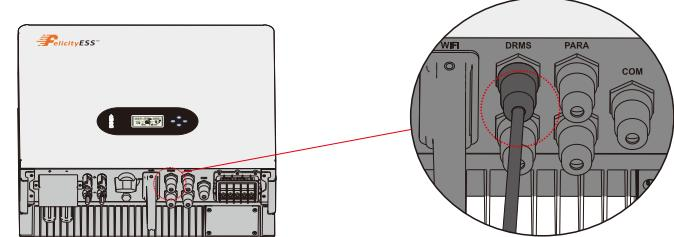

Figure 4.5-5 RJ45 interface
Step 4. Connect RJ45 terminal to the right position onto the inverter.See Figure 4.5-5.